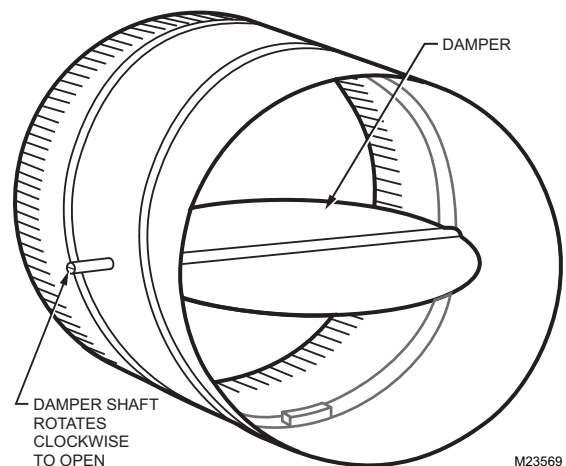
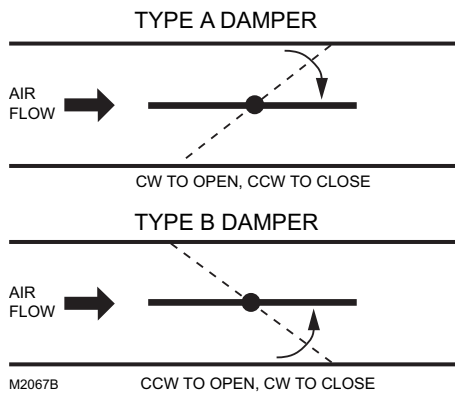

Fig. 2. Damper with 90 degree CW Rotation to Open.
Fig. 3. Determining rotation direction (CW or CCW) for damper opening.
Determine the damper rotation and opening angle prior to installation. See Fig. 2 below and Fig. 3 on page 4 for examples.
3. Determine the direction the damper shaft rotates to open the damper (CW or CCW); see Fig. 3. Typically, there is an etched line on the end of the damper shaft that indicates the position of the damper. In Fig. 2 on page 3, the indicator shows the damper open in a CW direction.
4. Determine the damper full opening angle (45, 60, or 90 degrees). In Fig. 2, the damper is open to its full open position of 90 degrees.